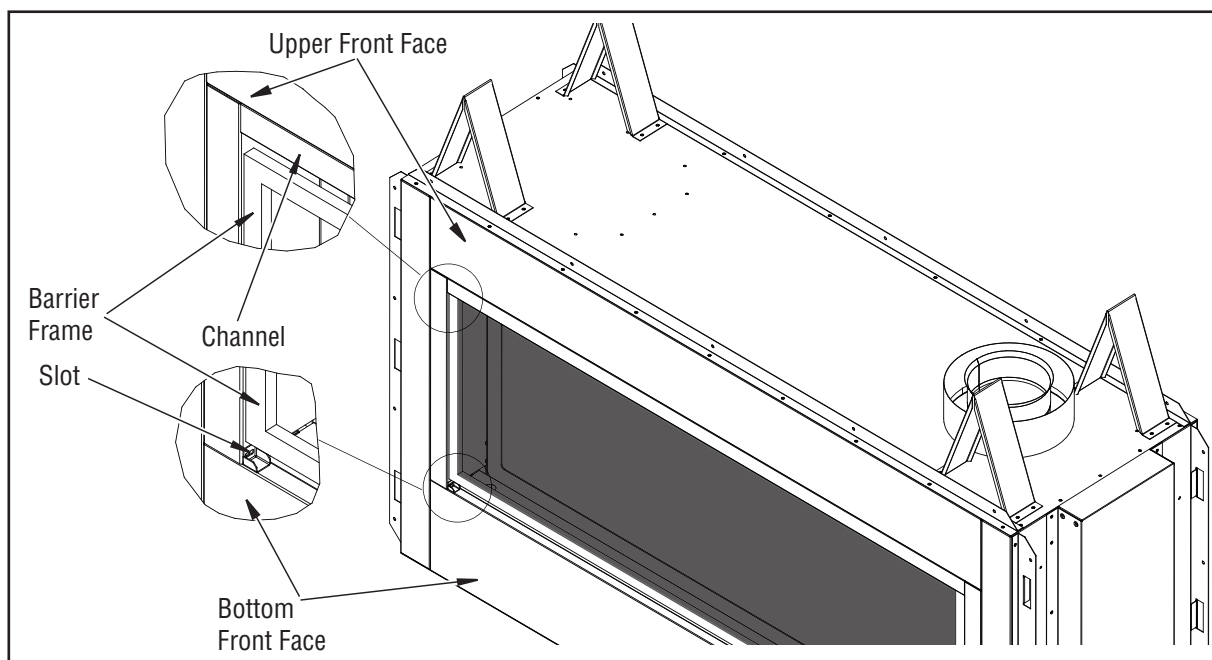

Figure 37 - Reinstalling barrier
1. Hold the barrier in front of the glass door and slide it up into the channel underneath the upper front face (see Figure 37).
2. Slide the barrier bottom down into the slots below the glass door, securing it in place (see Figure 37).